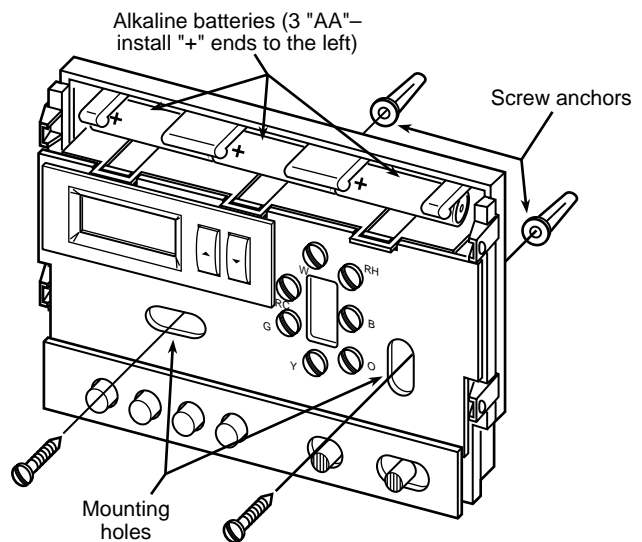

Figure 2. Thermostat base
5. Fasten base loosely to wall, as shown in fig. 2, using two mounting screws. Place a level against bottom of base, adjust until level, and then tighten screws. (Leveling is for appearance only and will not affect thermostat operation.) If you are using existing mounting holes, or if holes drilled are too large and do not allow you to tighten base snugly, use plastic screw anchors to secure subbase.
If the word **BATTERY** is displayed, the batteries are low and should be replaced with fresh "AA" Energizer® alkaline batteries. To replace the batteries, install the batteries along the top of the base (see fig. 2). The batteries must be installed with the positive (+) ends to the left.